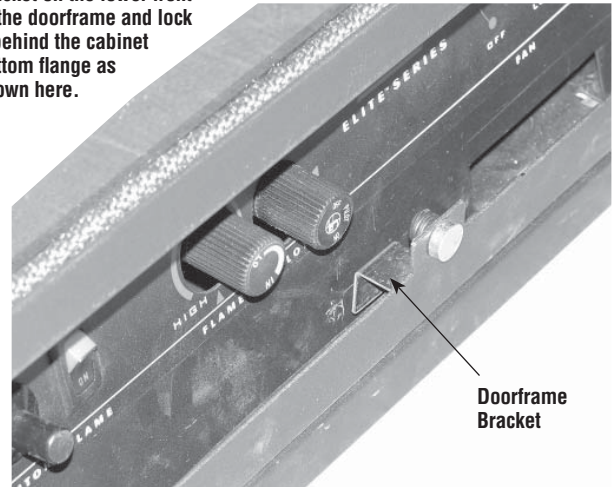

Figure 7
- Place the doorframe bracket in the locked position as shown in Figure 7.